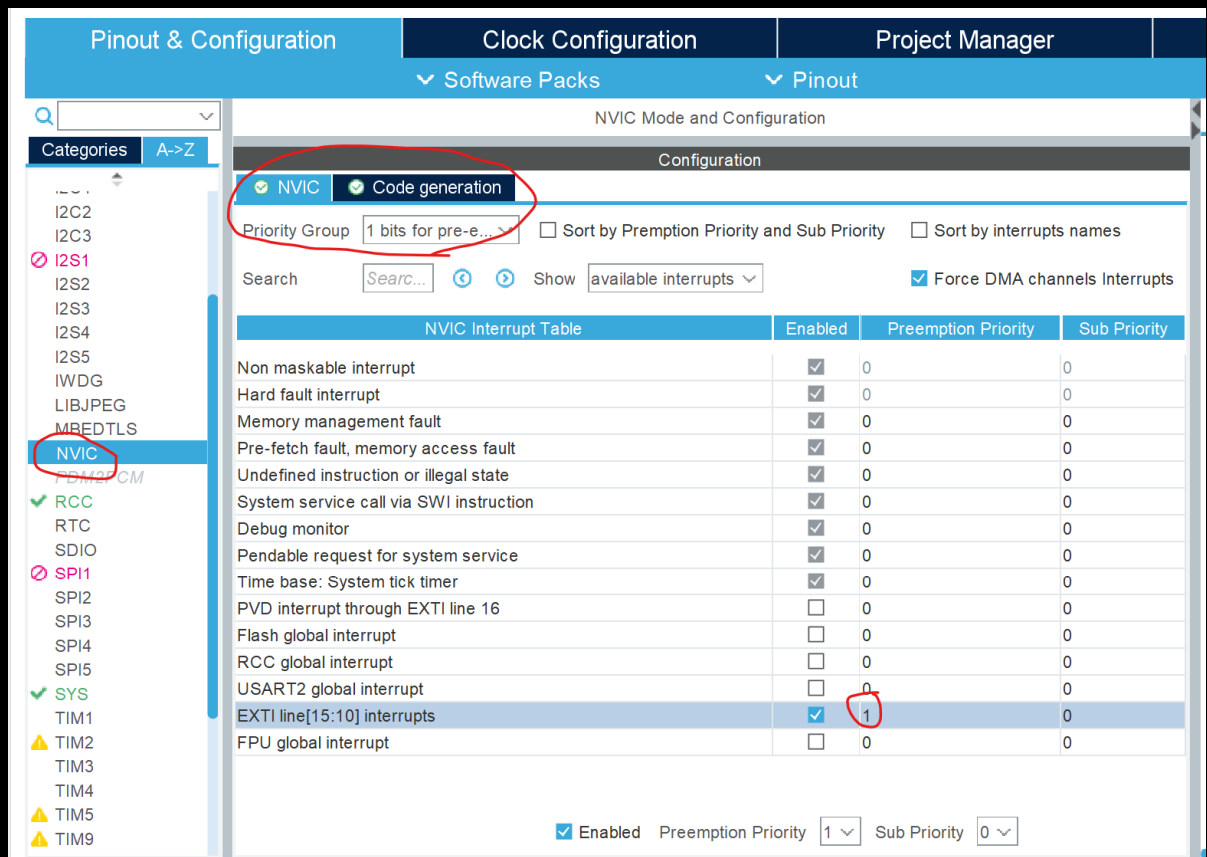

Figure 15: Priority Modification under NVIC Configuration
- You might not get expected output if HAL_Delay is used inside the external interrupt callback function due to clash in their interrupt priorities (Check the HAL document for more information). If you want to use HAL_Delay in HAL_GPIO_EXTI_Callback, set a lower priority (higher numerical value) in the 'Preemption Priority' of EXTI line under NVIC configuration as shown in Figure 15. Save configuration and generate code.